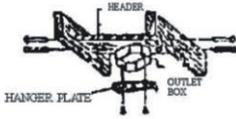

FIGURE 1
1. using two screws, mount the plate or hook to the junction box on the ceiling, as shown in Figure 1.